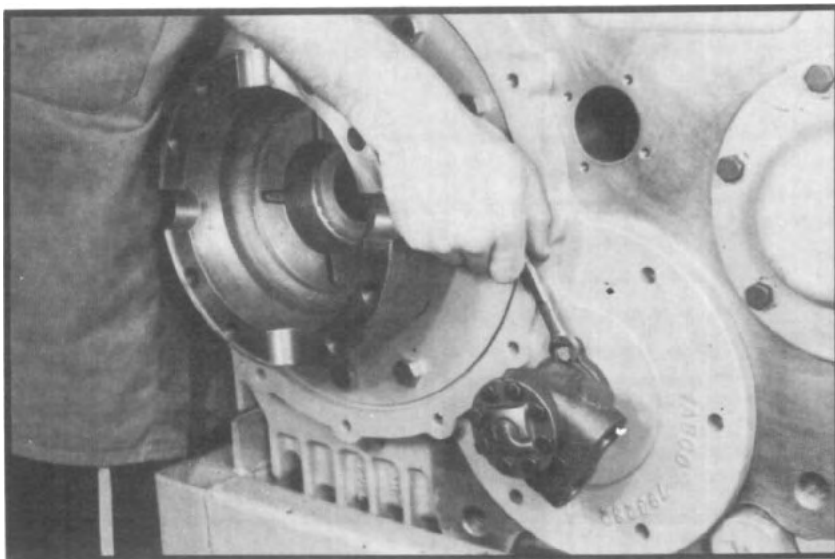

Fig. 123
- 2.14 Install oil pump (with ports facing towards top of case) and gasket to rear face plate using three capscrews. (See fig. 123.) Tighten capscrews to correct torque. If oil pump has been disassembled. Consult Section VII-I.